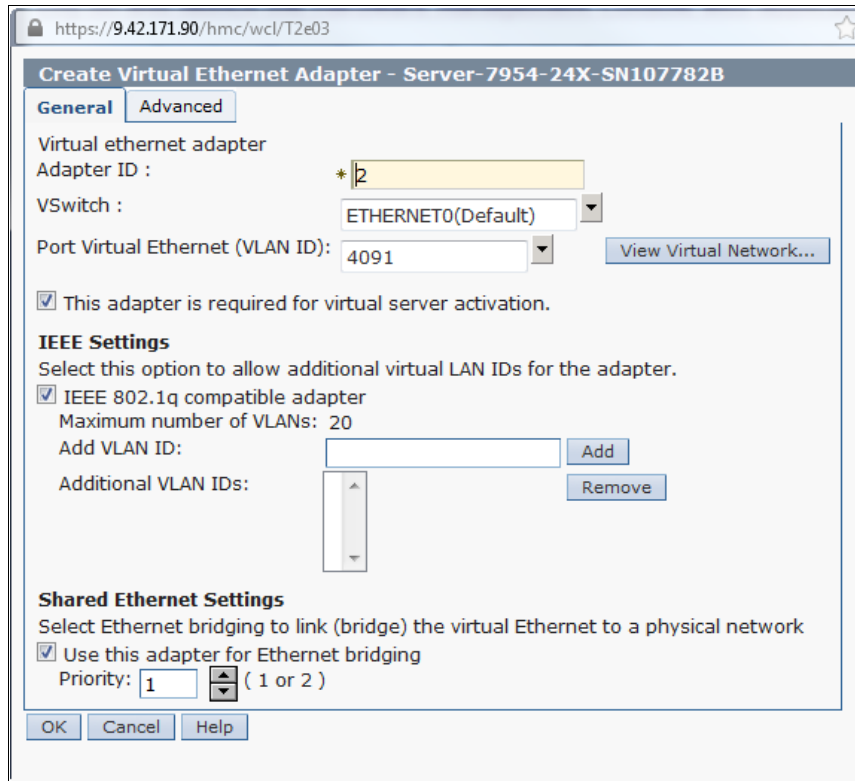

Figure 8-36 Virtual Ethernet values when used for a SEA
2. In the Create Virtual Ethernet Adapter window (as shown in Figure 8-36 on page 386), enter or accept the following characteristics for the bridging virtual Ethernet adapter: